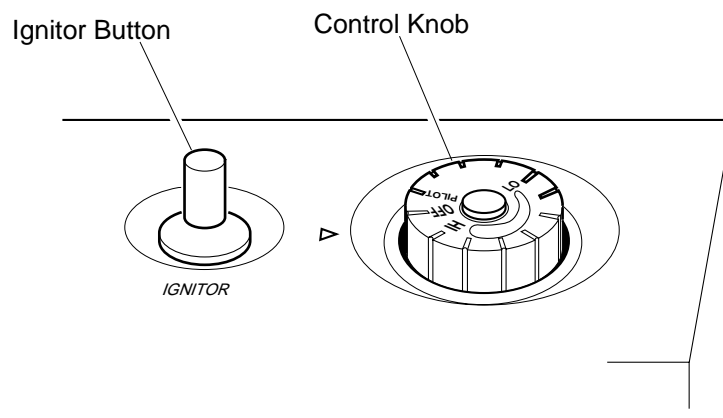

Figure 15 - Control Knob In The OFF Position
4. Wait five (5) minutes to clear out any gas. Then smell for gas, including near the floor. If you smell gas, STOP! Follow "B" in the safety information at the top of page 16. If you don't smell gas, go to the next step.
5. Turn control knob counterclockwise  to the PILOT position. Press in control knob for five (5) seconds (see Figure 15, page 16).